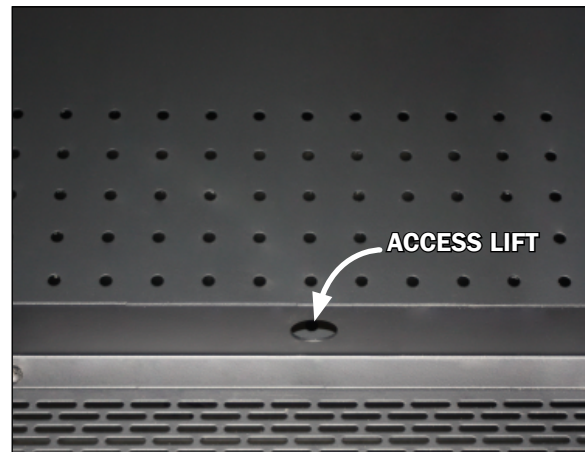

Fig. 21 Base deck pre-drilled access lift
2. To reach the fans and pressure plate first remove the base deck with help of the pre-drilled access lift supplied (Fig. 21). **Note: It is recommended that more than one person lift the deck.**